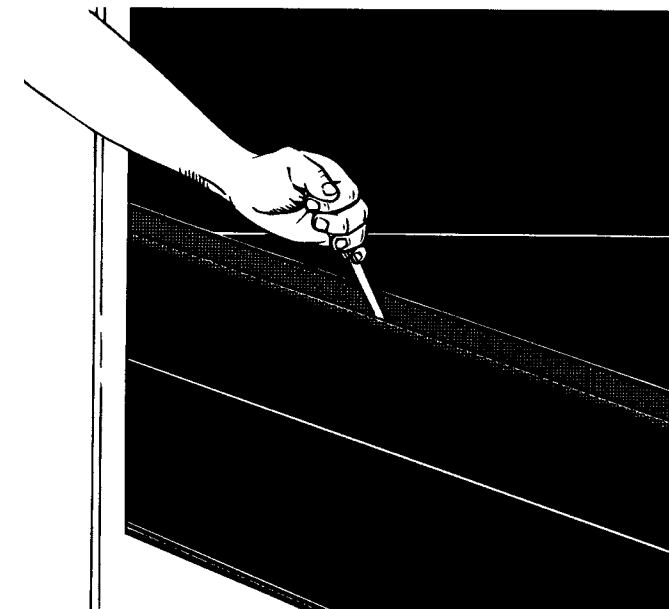

Fig 5-9
14. From marks made down the edges, redraw the bias line where the cover was removed. Then cut the top ply along this line (Fig 5-9).